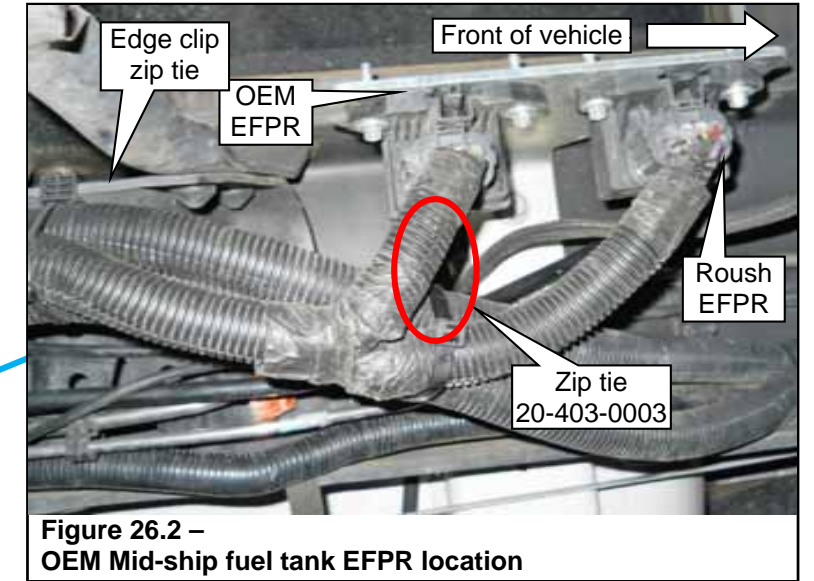

Figure 26.2 – OEM Mid-ship fuel tank EFPR location
4. Plug in both EFPR connectors. Check to make sure the connectors are fully seated. **Figure 26.2.**